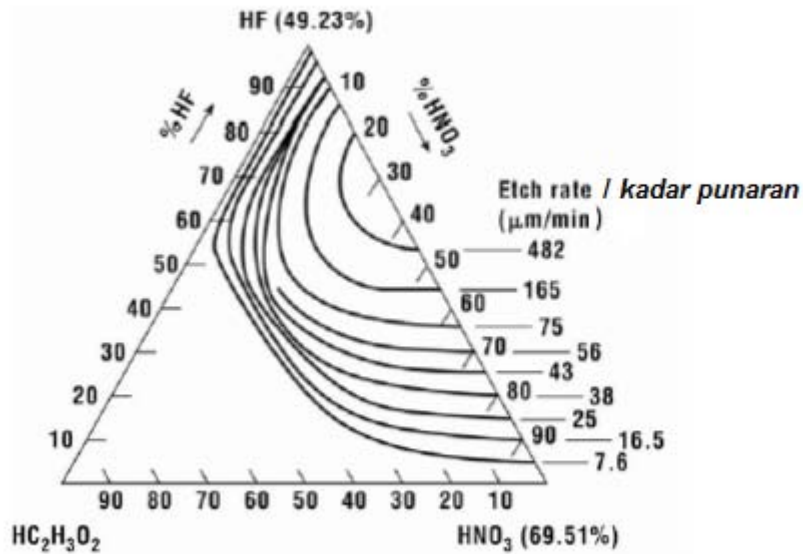

Figure 2: Schematic diagram of the etch rate for silicon in HF and HNO₃ at room temperature
5. [a] An etching solution containing mixture of HNO_3 (69.51%), HF (49.23%), and $\text{HC}_2\text{H}_3\text{O}_2$ is used to etch silicon. If the solution consisting of 3 parts of HNO_3 , estimate the HF and $\text{HC}_2\text{H}_3\text{O}_2$ content to obtain an etch rate of $56 \mu/\text{min}$ at room temperature. Refer to Figure 2 for etching rate of silicon in HF and HNO_3 .